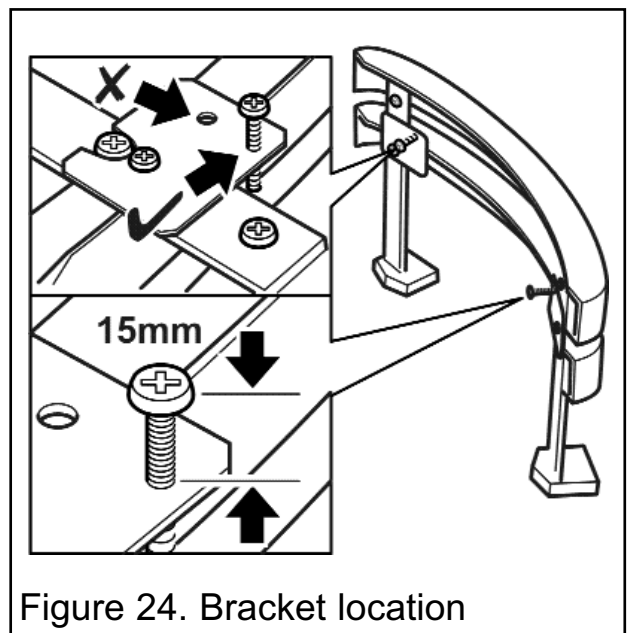

Figure 24. Bracket location
2. The screw should be set at a distance of 15mm (Measured from the surface of the bracket to the underside of the screw head). Adjust the screw to this distance (See figure 24).